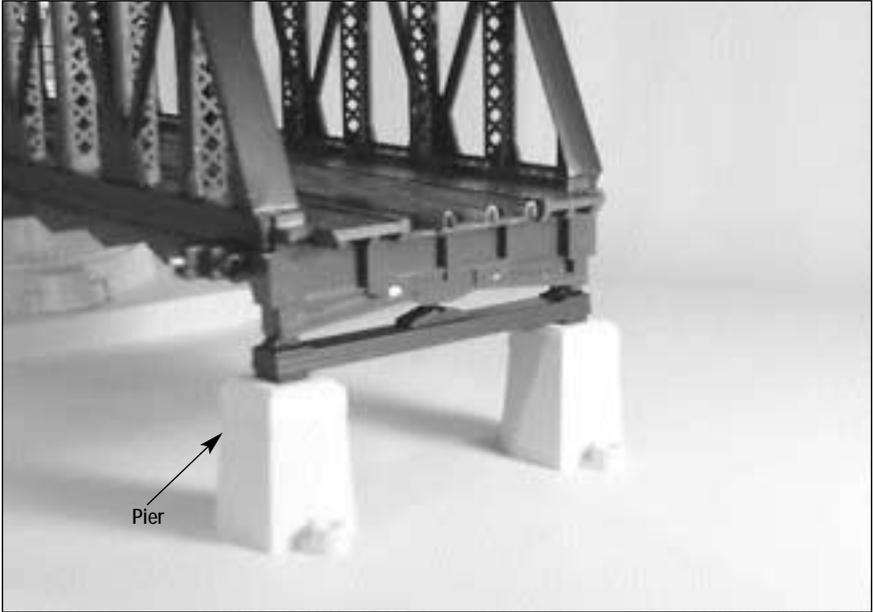

Figure 3. Piers
6. Position the piers under the bridge when it is fully open and lowered into position. Refer to Figure 3.